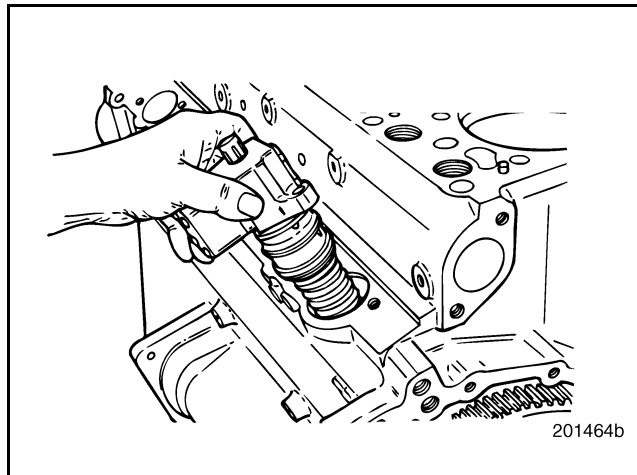

Figure 98 — EUP Removal
5. Remove outboard EUP screw completely and remove EUP from the cylinder block. Refer to Figure 98. Place the EUP in a clean area and cover it to prevent entry of dirt and other contaminants.